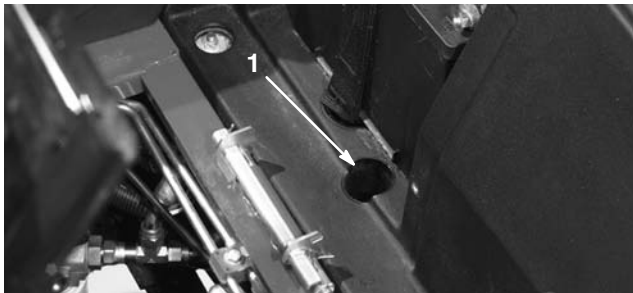

Figure 28
1. Raise the seat and remove the battery cover. The bypass valve is located in front of the battery (Fig. 28).